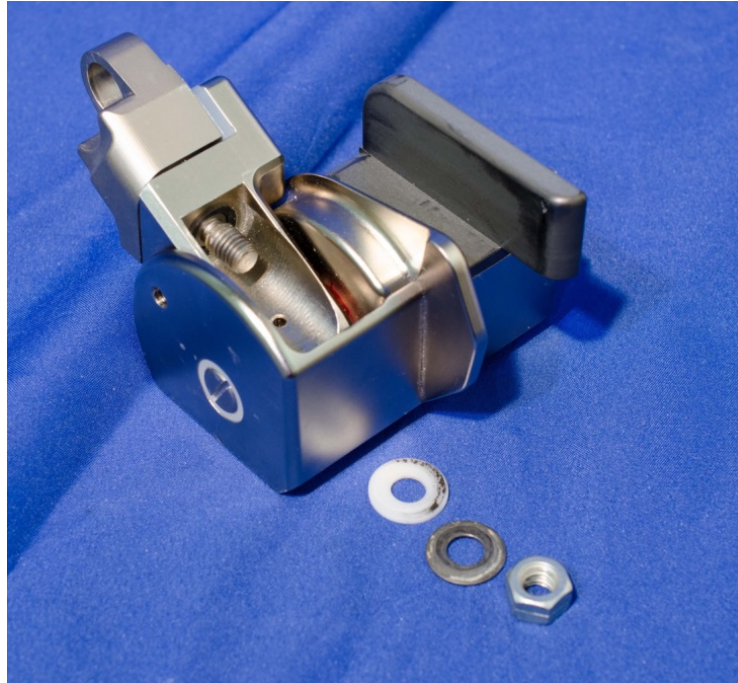

Figure 7-10. Assemble shoulder support pivot into shoulder support
- 7.2.2.4 Assemble the Left Shoulder Support Pivot (472-3815-1) into the Left Shoulder Support (472-3814-1). Install the 18 x 8 x 1.5 Washer Link (472-3818), the 20 x 8.2 x 1.0 spring disc washer, and M8 x 1.25 locknut (SNEP #ESN H100) onto the threaded shaft of the shoulder support pivot (Figure 7-10).